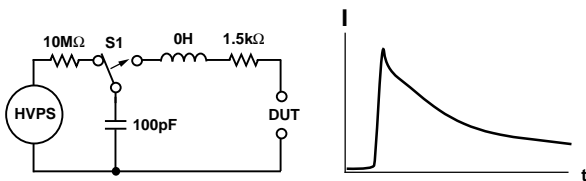

Figure 1. Human Body Model
To evaluate the susceptibility of devices to simulated stress environments a host of test waveforms have been developed. The three most prominent of these waveforms currently in general use for simulating ESD events in semiconductor or discrete devices are: The Human Body Model (HBM), the Machine Model (MM), and the Charged Device Model (CDM). The test circuits and current waveform characteristics for these three models are shown in Figures 1 to 3. Each of these models represents a fundamentally different ESD event. Consequently, correlation between the test results for these models is minimal.